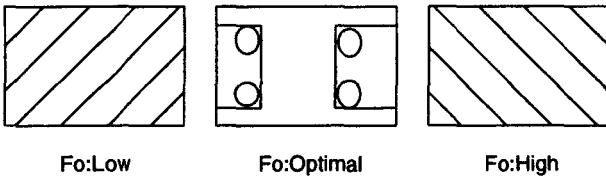

Fig.5-2
- Adjust **[60 H-FREQ]** so that the slanting lines on the screen will be vertical. (Fig.5-2)
- Adjust **[50 H-FREQ]** so that the slanting lines on the screen will be vertical. (Fig.5-2)